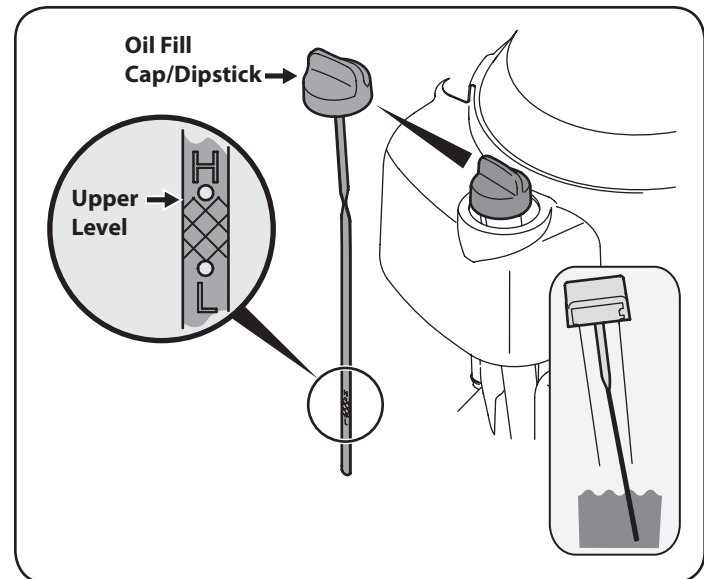

Figure 16
2. Insert the dipstick into the oil filler neck. Turn the dipstick 1/4 turn into the locked position to fully seat. See Figure 16.
4. If the level is low, slowly add oil until the reading is at the upper level on the dipstick. See Figure 16 inset.